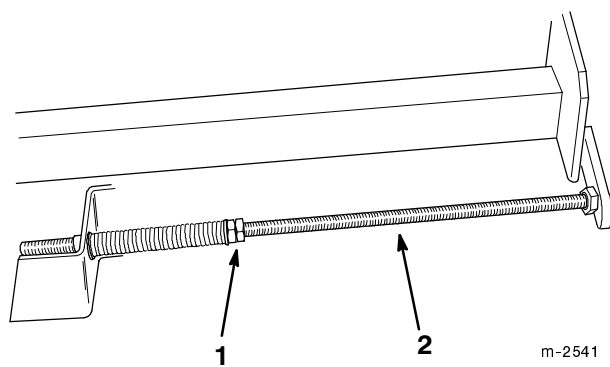

Figure 27
3. Loosen the jam nuts on each adjusting shaft to loosen the tension on the drive belt (Fig 27).